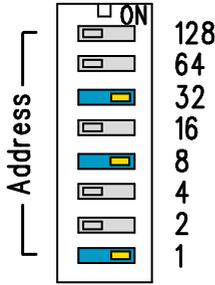

Figure 19 MAC Address DIP Switch Example
- 4 DIP switches for setting the device MAC address: see Figure 19 \(page 30\)